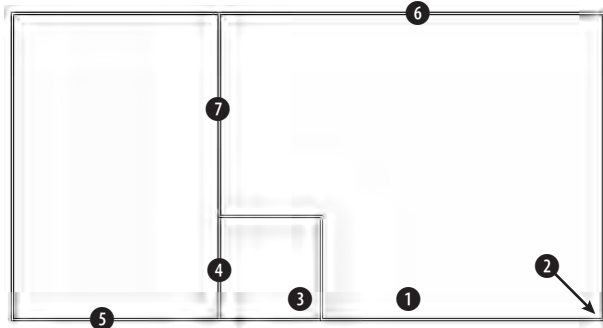

Figure 16-46: A layout of two rooms
2. Save the file as `ab16-09.dwg` in your AutoCAD Bible folder. This is a simple layout of two rooms using the Standard multiline style, as shown in Figure 16-46.
4. At the **Select mline:** prompt, choose the multiline at ① in Figure 16-46. Press **Enter** to end multiline selection.
5. Pick the multiline again and click the grip at ②. At the **Specify stretch point or [Base point/Copy/Undo/eXit]:** prompt, click **ORTHO** in the status bar and move the cursor in the 90-degree direction and type **4'** ↵.
6. Pick the multiline at ③ and click the grip at ③ in Figure 16-46. At the **Specify stretch point or [Base point/Copy/Undo/eXit]:** prompt, move the cursor in the 180-degree direction and type **4'** ↵. Press **Esc** to see the corner.
7. Choose **Modify** ⇨ **Object** ⇨ **Multiline**. In the Multiline Edit Tools dialog box, choose **Corner Joint** and click **OK**. At the prompts, pick the multiline at ④ and ⑤ in Figure 16-46. Press **Enter** to end multiline selection.
8. Choose **Modify** ⇨ **Object** ⇨ **Multiline**. In the Multiline Edit Tools dialog box, choose **Cut All** and click **OK**. At the **Select mline:** prompt, pick the multiline at ⑥. (The exact point doesn't matter.) At the **Select second point:** prompt, type **@3',0** ↵. At the **Select mline or [Undo]:** prompt, pick the multiline near ⑦ in Figure 16-46. At the **Select second point:** prompt, type **@0,-3'** ↵. Press **Enter** to end multiline selection.